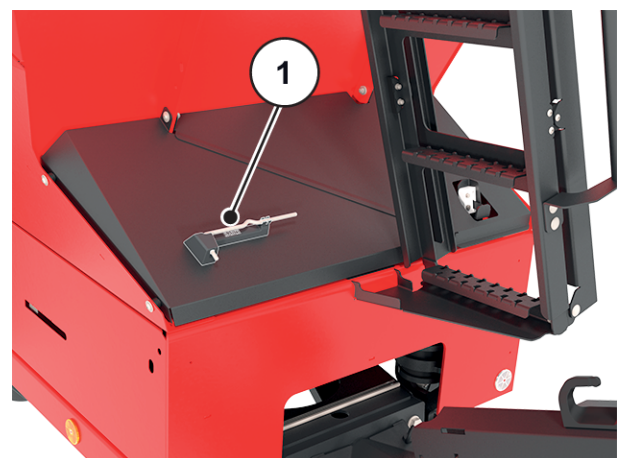

Fig. 37: Adjustment lever position
- ▶ Put the adjustment lever back into the designated bracket. See *Fig. 37 Adjustment lever position*